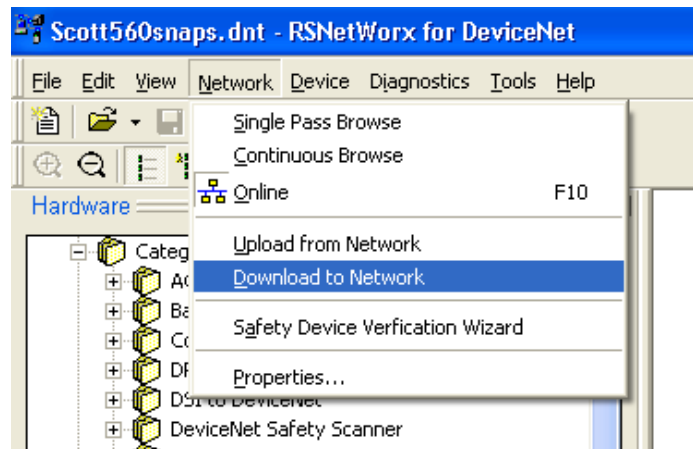

Figure 5-26: Network Download Confirmation Prompt
- Download the configuration to the scanner card, in order to commission the network. In the prompt that appears (Figure 5-26), click Yes to continue. Note that some scanner cards may require power down for changes to take effect.